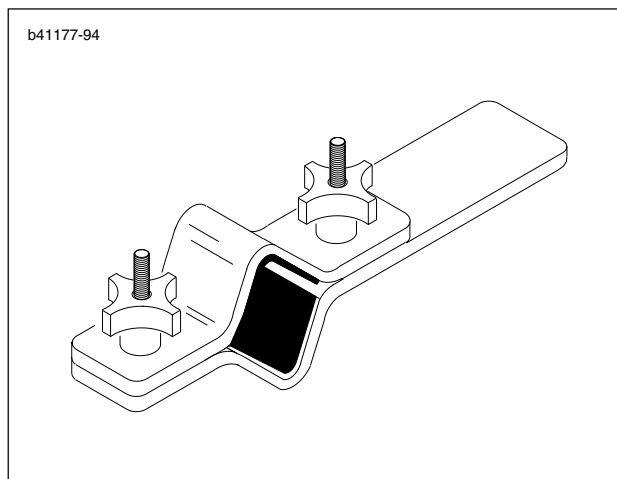

Figure 2-50. Front Fork Holding Tool (Part No. B-41177)
1. See Figure 2-50. Clean up fork and clamp vertically in a vise using FRONT FORK HOLDING TOOL (Part No. B-41177).